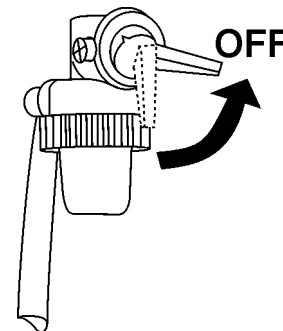

Figure 26. Engine Fuel Valve Lever (OFF Position)
- Place the engine **fuel valve lever** (Figure 26) to the "OFF" position."